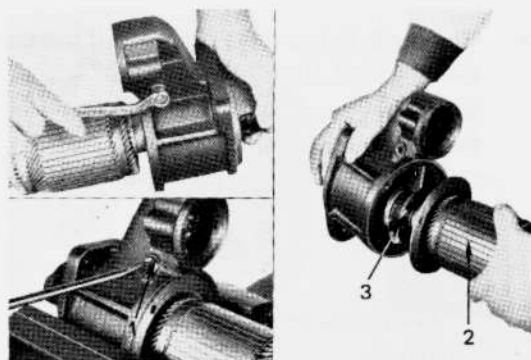

Fig. 7-8 Removing Armature
7. Remove the drive lever set pin (1), then remove then armature (2) together with the drive lever (3) as illustrated in Fig. 7-8.